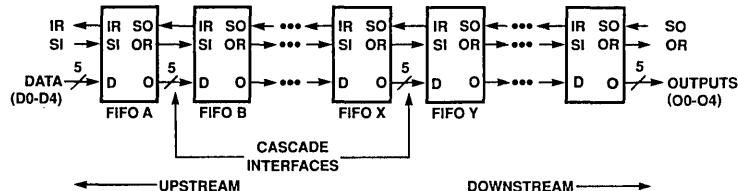

Figure 2. A Cascaded Buffer
If a deeper buffer size is required, two or more FIFOs may be cascaded, as shown in Figure 2.
Monolithic Memories' shallow FIFOs are *fallthrough* devices, that is, the first word shifted into an empty part automatically "falls through" the buffer and it becomes visible at the outputs. Its presence is indicated by the rising edge of OR. The following sequence describes this fallthrough action as a word is shifted into FIFO A (see Figure 2):
Consider a cascade interface between FIFOs X and Y of Figure 2. The OR of X goes HIGH, then is quickly reset once a valid shift out is detected. The duration of this OR pulse, termed tOPH, must be long enough to be used by the SI of the downstream FIFO (Y). Specifically,